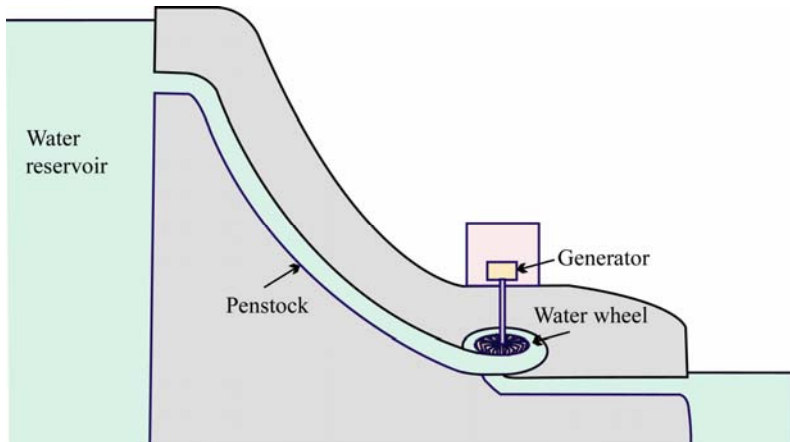

Figure 34-15: Schematic representation of a dam.
3. **Hydroelectric power** is frequently used in locations where there are large bodies of water, such as rivers or lakes. At these locations a dam is constructed to create a large reservoir of water that is elevated above the water on the other side of the dam. Some of this water is allowed to fall through a special channel called a **penstock**, increasing its speed as it falls. Near the bottom of the penstock the water is channeled into the **scroll case** where it hits and spins the finned water wheels of a turbine, producing the rotary motion for the generators (see Fig. 34-15). The water can then continue downstream, where it may be used at another dam location.